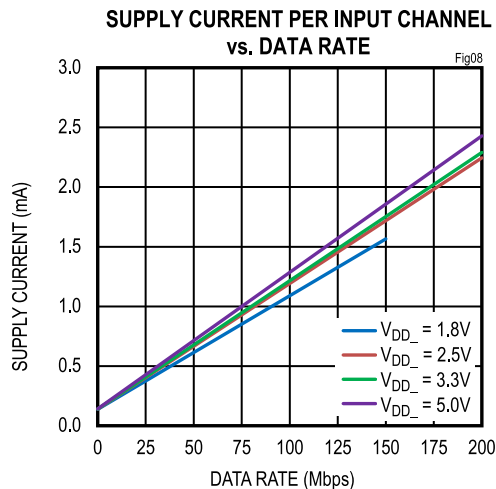
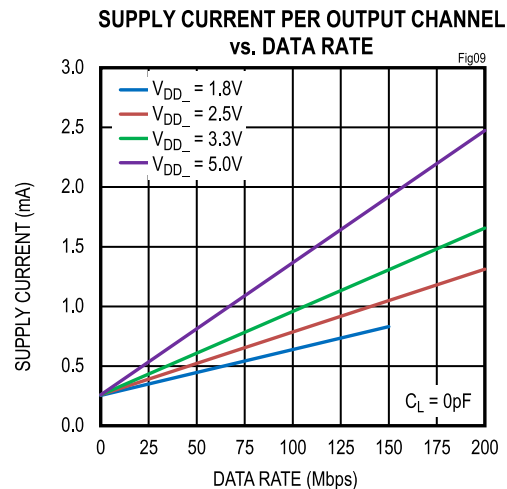

Figure 8. Supply Current Per Input Channel (Calculated)
Figure 9. Supply Current Per Output Channel (Calculated)
The required current for a given supply (V_{DDA} or V_{DDB}) can be estimated by summing the current required for each channel. The supply current for a channel depends on if the channel is an input or an output, the channel's data rate, and the capacitive or resistive load if it is an output. The typical current for an input or output at any data rate can be estimated from the graphs in Figure 8 and Figure 9. Note that the data in Figure 8 and Figure 9 are extrapolated from the supply current measurements in a typical operating condition.
The total current for a single channel is the sum of the no load current (shown in Figure 8 and Figure 9), which is a function of voltage and data rate, and the load current, which depends on the type of load. Current into a capacitive load is a function of the load capacitance, switching frequency, and supply voltage.
- Channel 1 is an input channel operating at 2.5V and 20Mbps, consuming 0.35mA, estimated from Figure 8.
- Channel 2 is an input channel operating at 2.5V and 100Mbps, consuming 1.19mA, estimated from Figure 8.
- Channels 3 and 4 are input channels operating at 2.5V with DC signal, consuming 0.14mA, estimated from Figure 8.
- Channel 5 is an output channel operating at 2.5V and 50Mbps, consuming 0.52mA, estimated from Figure 9.
- Channel 6 is an output channel operating at 2.5V and 200Mbps, consuming 1.31mA, estimated from Figure 9.
- Channel 1 is an output channel operating at 3.3V and 20Mbps, consuming 0.40mA, estimated from Figure 9.
- Channel 2 is an output channel operating at 3.3V and 100Mbps, consuming 0.96mA, estimated from Figure 9.
- Channels 3 and 4 are output channels operating at 3.3V with DC signal, consuming 0.26mA, estimated from Figure 9.
- Channel 5 is an input channel operating at 3.3V and 50Mbps, consuming 0.68mA, estimated from Figure 8.
- Channel 6 is an input channel operating at 3.3V and 200Mbps, consuming 2.29mA, estimated from Figure 8.